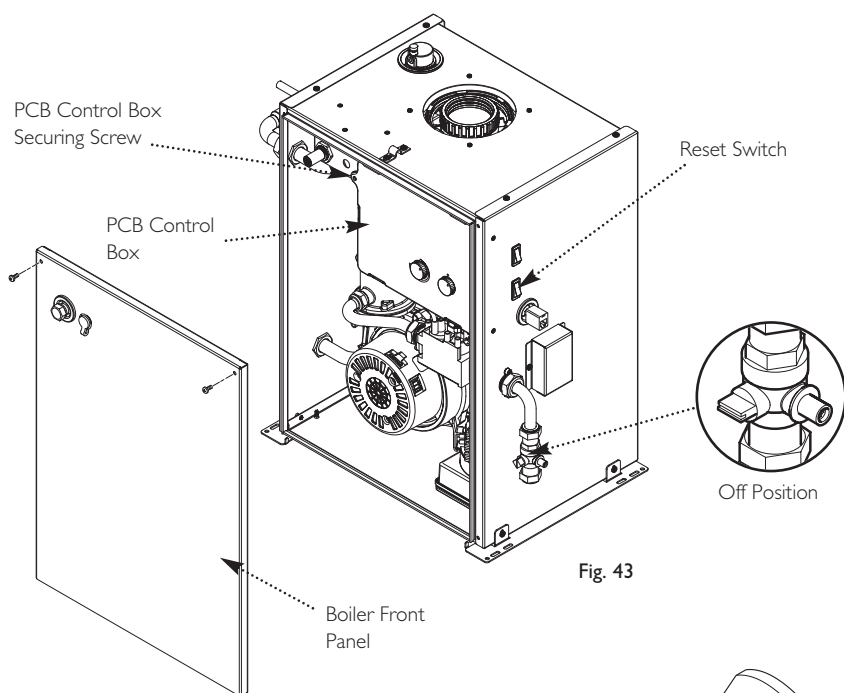

Fig. 43
4. Undo & remove the flue sampling plug and washer. Remove the screws retaining the boiler front panel, and lift the panel away (Fig. 43).
5. Remove the screw securing the PCB control box and swing the box to the right (Fig. 43).